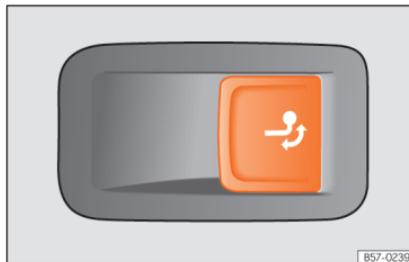

Fig. 214 On the right side of the luggage compartment: button for unlocking the tow hook.
- Pull the »» **Fig. 214** button briefly. The tow hook unlocks electrically and automatically turns outwards. The button's control lamp flashes.
- Pull the »» Fig. 214 button briefly. The tow hook unlocks electrically.
- If the warning light on the button »» Fig. 214 → flashes, this means that the tow hook has not been attached properly or is damaged »» ⚠.
- If the warning lamp »» Fig. 214 → remains on with the rear lid open, the tow hook is correctly in place both when extracted and when covered.
- Never press the »» Fig. 214 button when there is a trailer hooked to the vehicle or when a carrier system or other accessories are mounted on the tow hook.